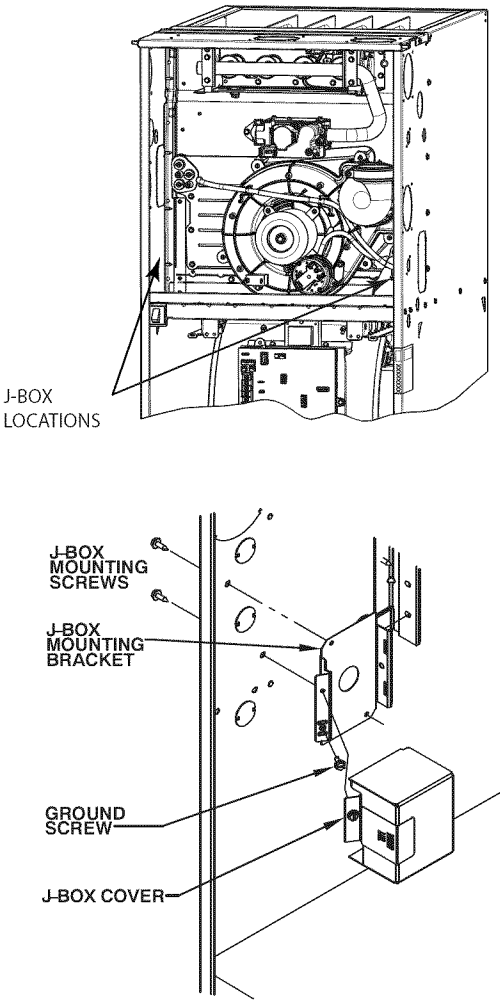

Fig. 31 - Installing J-Box (When Used)
Align the J-Box mounting bracket against the inside of the casing and secure the mounting bracket with the screws. (See Fig. 31.)
6. Connect field ground wire and factory ground wire to green ground screw on J-Box mounting bracket as shown in Fig. 31.
1. Install J-Box mounting bracket to inside of furnace casing. (See Fig. 31.)
5. Connect field ground wire and factory ground wire to green ground screw on J-Box mounting bracket as shown in Fig. 31.
7. Attach furnace J-Box cover to mounting bracket with screws supplied in loose parts bag. Do not pinch wires between cover and bracket. (See Fig. 31).
1. Install J-Box mounting bracket to inside of furnace casing. See Fig. 31.
4. Connect field ground wire and factory ground wire to green ground screw on J-Box mounting bracket as shown in Fig. 31.